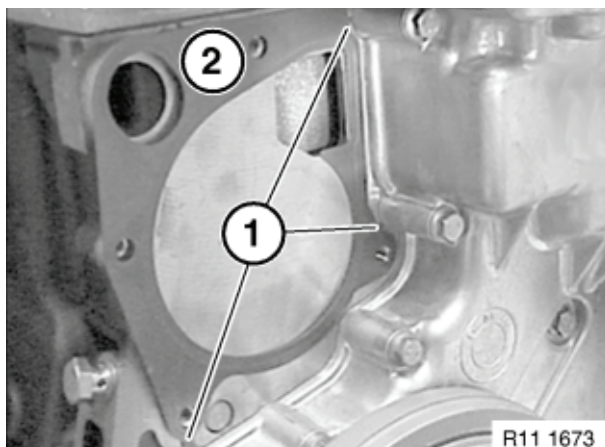
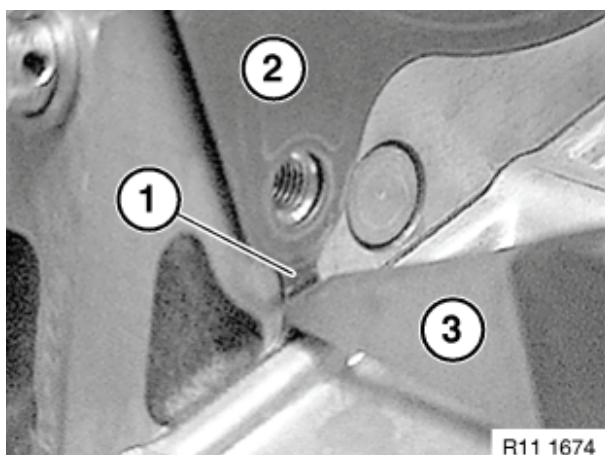

Figure 7-18
Figure 7-19
6. **NOTICE:** Use caution not to damage the sealing surface of the cylinder block when cutting old gasket. Cut old gasket (**Figure 7-18, (2)**) at locations (**Figure 7-18, (1)**) using a sharp chisel (**Figure 7-19, (3)**).